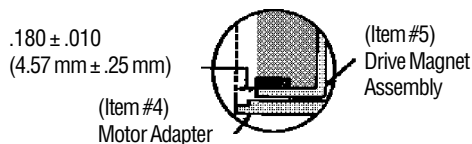

Figure 1
5. Coat the motor shaft with anti-seize compound. Slide drive magnet assembly (item 5) onto motor shaft keeping shaft key in place. Installation dimension from front of drive magnet assembly to face of motor adapter is $.180 \pm .010$ inches ($4.57 \text{ mm} \pm .25 \text{ mm}$). Tighten 2 set screws (item 5A) with a 3/16" "T" handle Allen wrench to 228 in•lbs (25.8 N•m). A spacing tool is available for setting proper dimension (p/n M100849). See Figure 1.